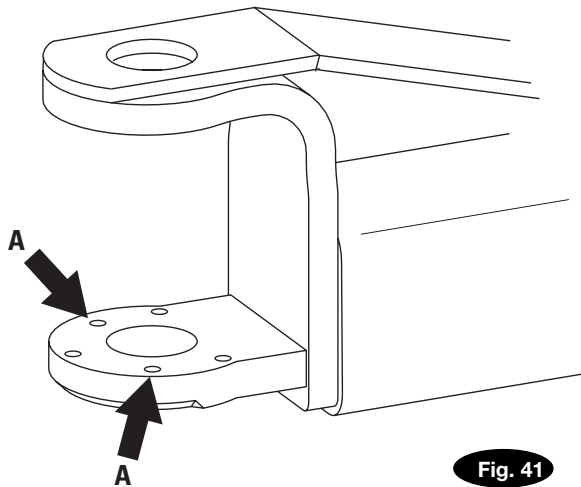

Fig. 41 Detail
Then, install the (2) 3/8"-16NC x 1-1/2" HHCS (8 total for all 4 arms) and 3/8" Spring Lock washers into the gear and arm, but do not tighten. Reference Fig. 40c, Fig. 41, and Fig. 42.